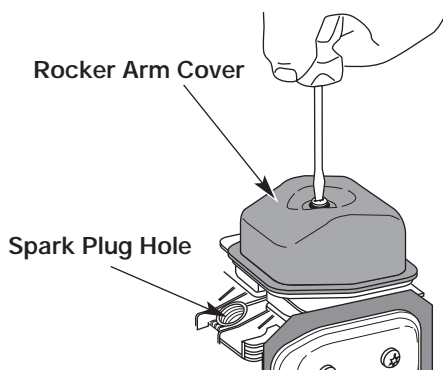

Figure 53
- Clean dirt from around the rocker arm cover. Remove the screw holding the rocker arm cover with a large flat blade screwdriver or Torx T-25 bit. See Figure 53. Remove the rocker arm cover and gasket.
- The piston is at the top of its travel while looking in the spark plug hole. See Figure 53.